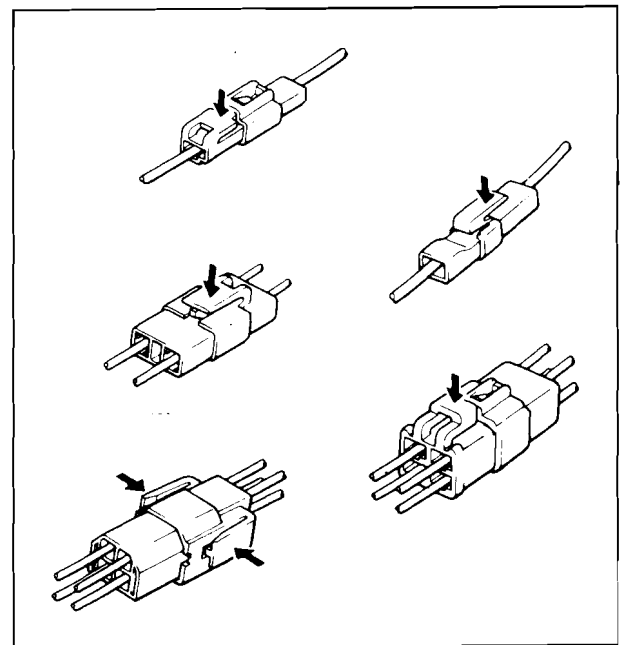

Fig. 2—Uncoupling connectors
- To uncouple a connector with a catch, press in the direction of the arrows shown in Fig. 2.